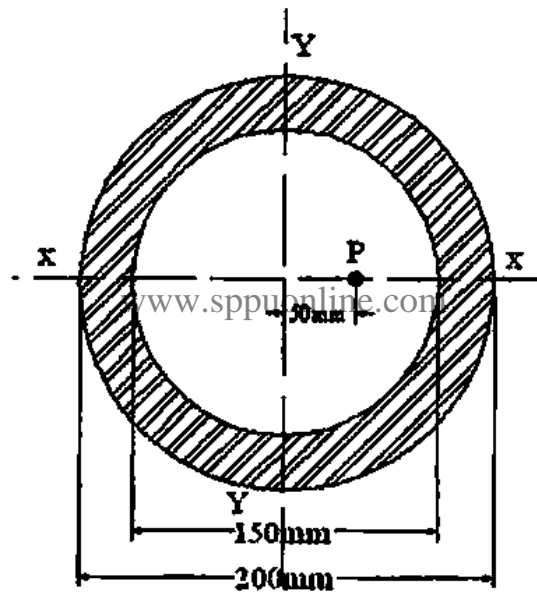

Fig. 8
- (b) A hollow circular steel column having external diameter  $200\text{ mm}$  and internal diameter  $150\text{ mm}$  carries a vertical load of  $80\text{ kN}$  acting with an eccentricity of  $50\text{ mm}$ . Calculate maximum and minimum stress intensities in the section. (Fig. 8) [7]